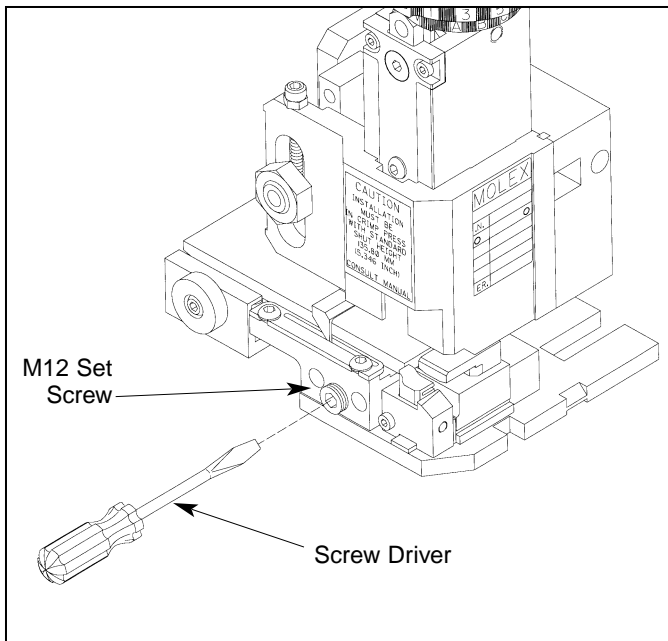

Figure 2.3.2.3 Adjusting Track
2.3.2.3 Using a small screw driver, turn the adjusting screw to position the terminal in the correct position. Turning the screw clockwise will move the track towards the operator; to move the track into the applicator turn the screw counter-clockwise. (Refer Fig. 2.3.2.3 Adjusting Track)